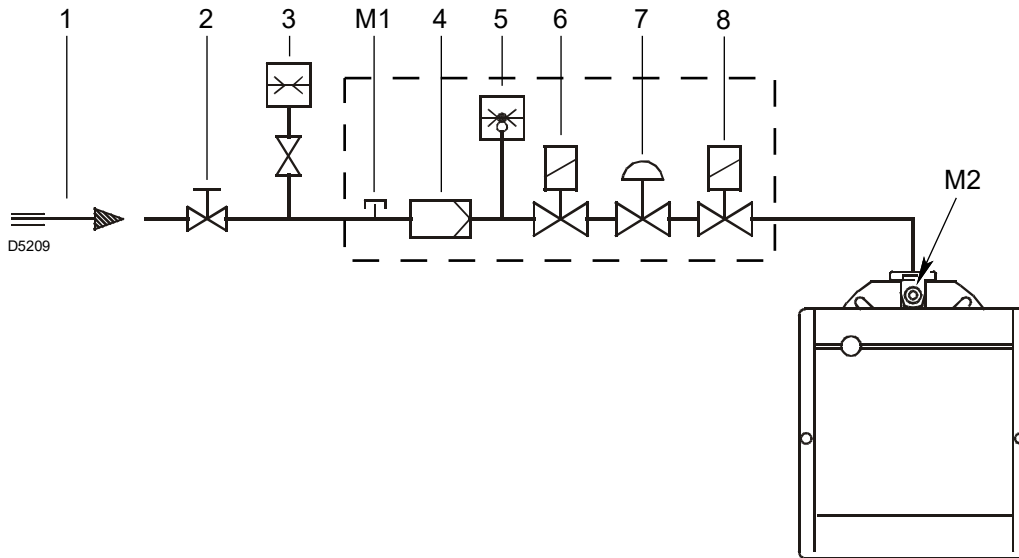

Fig. 16
Key (Fig. 16)
Gas pressure measured at test point M2) (Fig. 16), with:
- subtract the pressure in the combustion chamber from the pressure of the gas at test point M2) (Fig. 16).
Gas pressure at test point M2)(Fig. 16) = 10 mbar
To calculate the required gas pressure at test point M2) (Fig. 16), with the maximum modulating output at which you want the burner to operate having been fixed:
- Read on the right, column 1, the pressure at the socket M2) (Fig. 16).